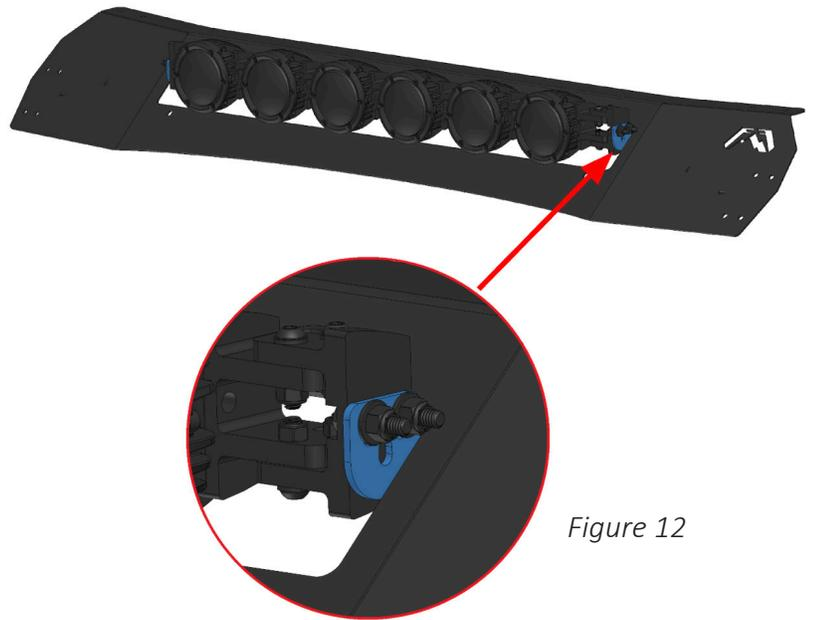

Figure 12
11. If Installing a Rigid 360 Connect series 30" light bar: Use the provided mounting brackets (23432 and 23433) with 2x M6 BHCS and M6 flange nuts in the orientation shown in figure 12. Place a small amount of the provided 242 Loctite on each bolt before installation. Figure 12.